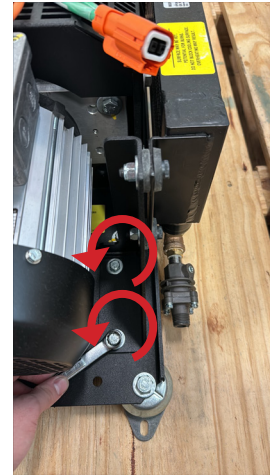

Figure 61
2. Using a ½-inch wrench, loosen and remove the two bolts that attach the aftercooler mounting bracket to the baseplate as shown in Figure 61. Save the bolts, as you will need them to re-assemble the unit.
9. Re-attach the aftercooler mounting bracket to the baseplate (refer to Figure 61). Apply Loctite 243 (or equivalent) to the 2 bolts that attach the aftercooler mounting bracket to the baseplate and torque to 13 ft-lbf (17.6 Nm).